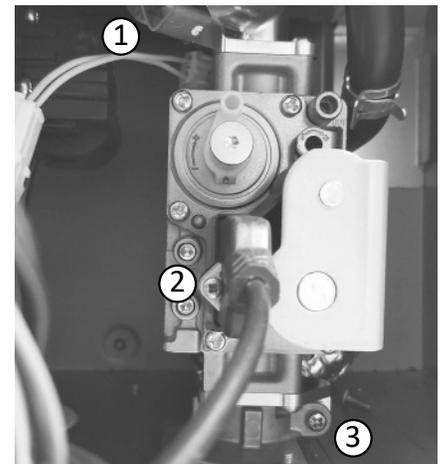

Figure 38: Gas valve assembly removal.
- 3 Remove the screw securing the gas valve assembly to the gas inlet mount. See Figure 38.
- 10 Secure the gas valve assembly to the gas inlet mount at ③ using the screw removed earlier. See Figure 38 on page 49.
- 11 Reattach the wiring harness and secure it at ② with the screw removed earlier. See Figure 38 on page 49.
- 12 Reconnect the copper gas pipe to the new gas valve assembly at ①. Inspect the o-ring on the copper gas pipe, if any cuts or nicks are present replace the o-ring immediately. Secure the copper gas pipe using the 16-25A metal fastener removed earlier. See Figure 38 on page 49.